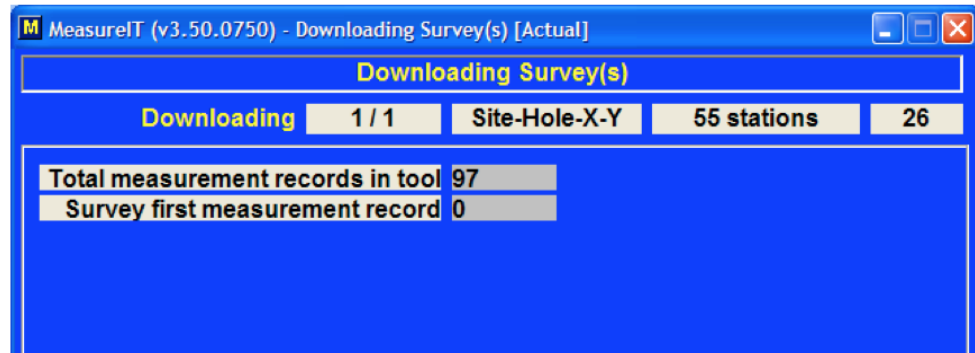

Figure 12 Download-in-progress screen
- a. It takes about a half-second per shot for the data to download, e.g. an 8-hour survey at 6 sec/shot should take around 40 minutes to download. The downloading survey window will be displayed throughout the download process (**Figure 12**).